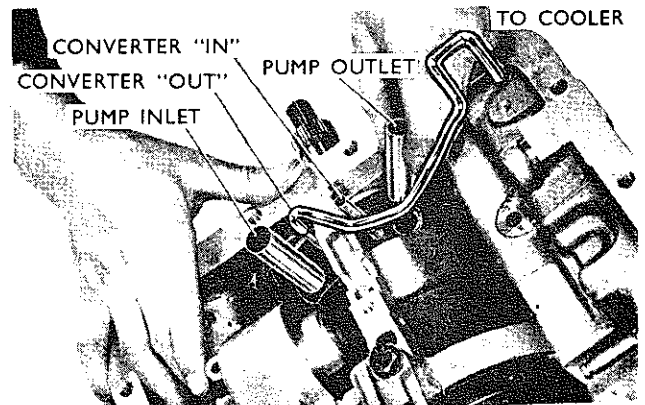

Fig. 23—Valve body to pump assembly tubes
- (4) Remove the 3 valve body retaining bolts (7/16" hex. heads).
- (5) Carefully detach the transmission throttle valve cable from the valve cam.
- (6) Disengage the valve body assembly from the 3 supply tubes at front of the transmission. (Refer Fig. 23.)
- (7) Remove the pump intake tube O-ring (from the tube or recess (Refer Fig. 23) in converter support).